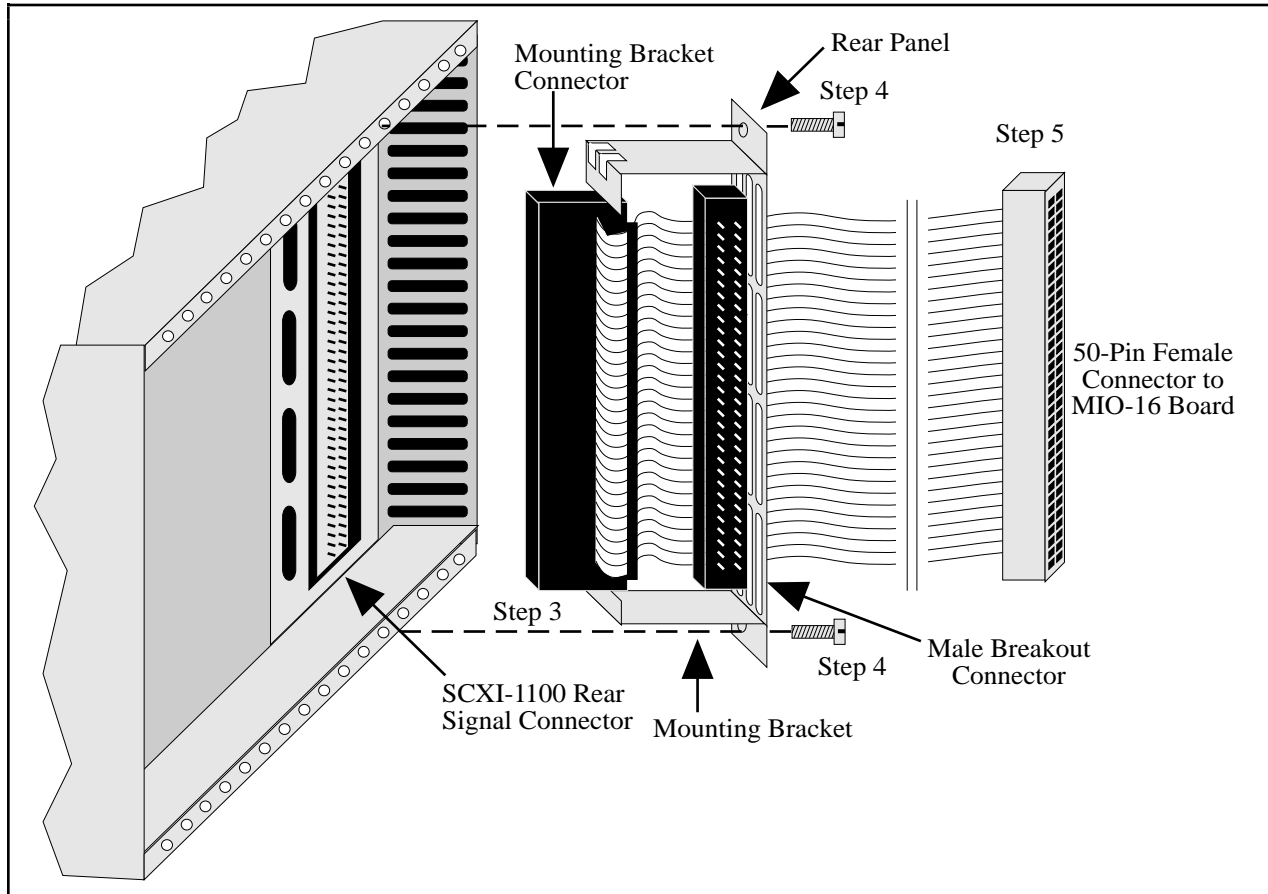

Figure E-1. SCXI-1340 Installation
3. Plug the mounting bracket connector onto the module rear signal connector (see Figure E-1). Make sure the alignment tab on the bracket enters the upper board guide of the chassis.